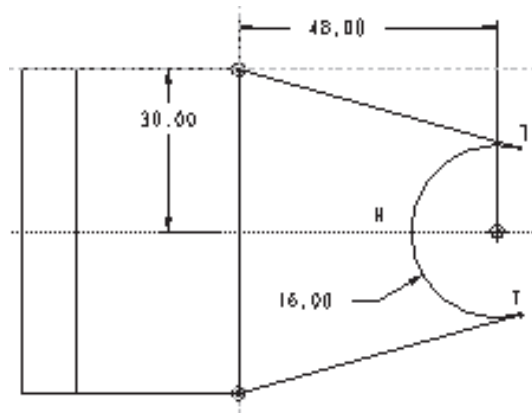

Figure 4-85 Sketch with dimensions and constraints
The next feature to be created is an extrude feature. The section for the extrude feature is shown in Figure 4-85. Before drawing the sketch, turn the model display to **No Hidden**.
2. Draw the section sketch using various sketcher tools. In the sketch, draw a center line passing through the centre of the arc as shown in Figure 4-85. This center line helps in dimensioning the sketch. Add the required constraints and dimensions to the sketch as shown in Figure 4-85.